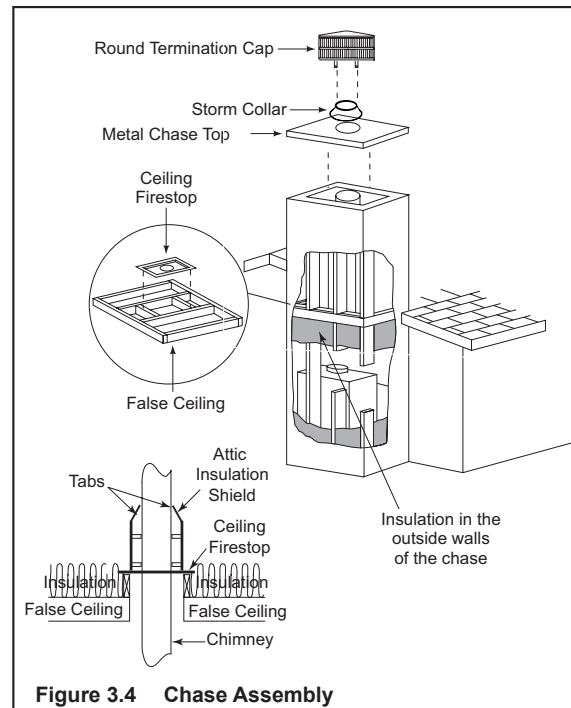

Figure 3.4 Chase Assembly
A chase is a vertical boxlike structure built to enclose the fireplace and/or its vent system. Vertical chimneys that run on the outside of a building must be installed inside a chase. See Figure 3.4.
- In cold climates, the walls of the chase should be insulated to the level of the false ceiling as shown in Figure 3.4. This will help reduce heat loss from the home around the fireplace.
- A firestop spacer and attic insulation shield should be installed at the false ceiling. See Figure 3.4.